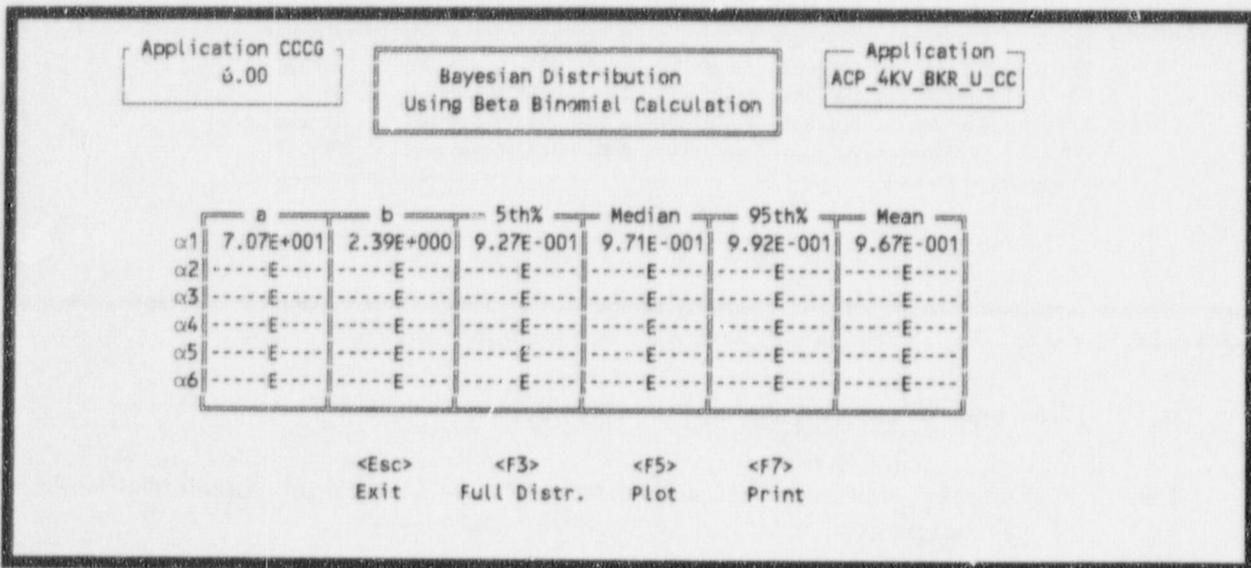

Figure 28. Generic—Hierarchical Bayesian Method results.
**3.4.1.2.3.1 Hierarchical Bayesian Method—View Previous Results**—The results of the last Hierarchical Bayesian calculation saved will be displayed in Figure 28.
Calculation progress updates will be displayed at the bottom of the screen throughout the calculation. To terminate the calculation at anytime, press <Esc>. A message will appear asking you to confirm the termination of the calculation, press Y to terminate, N to cancel the terminate and continue the calculation. Once the calculation has completed the Hierarchical Bayesian Method Results screen (Figure 28) will be displayed.